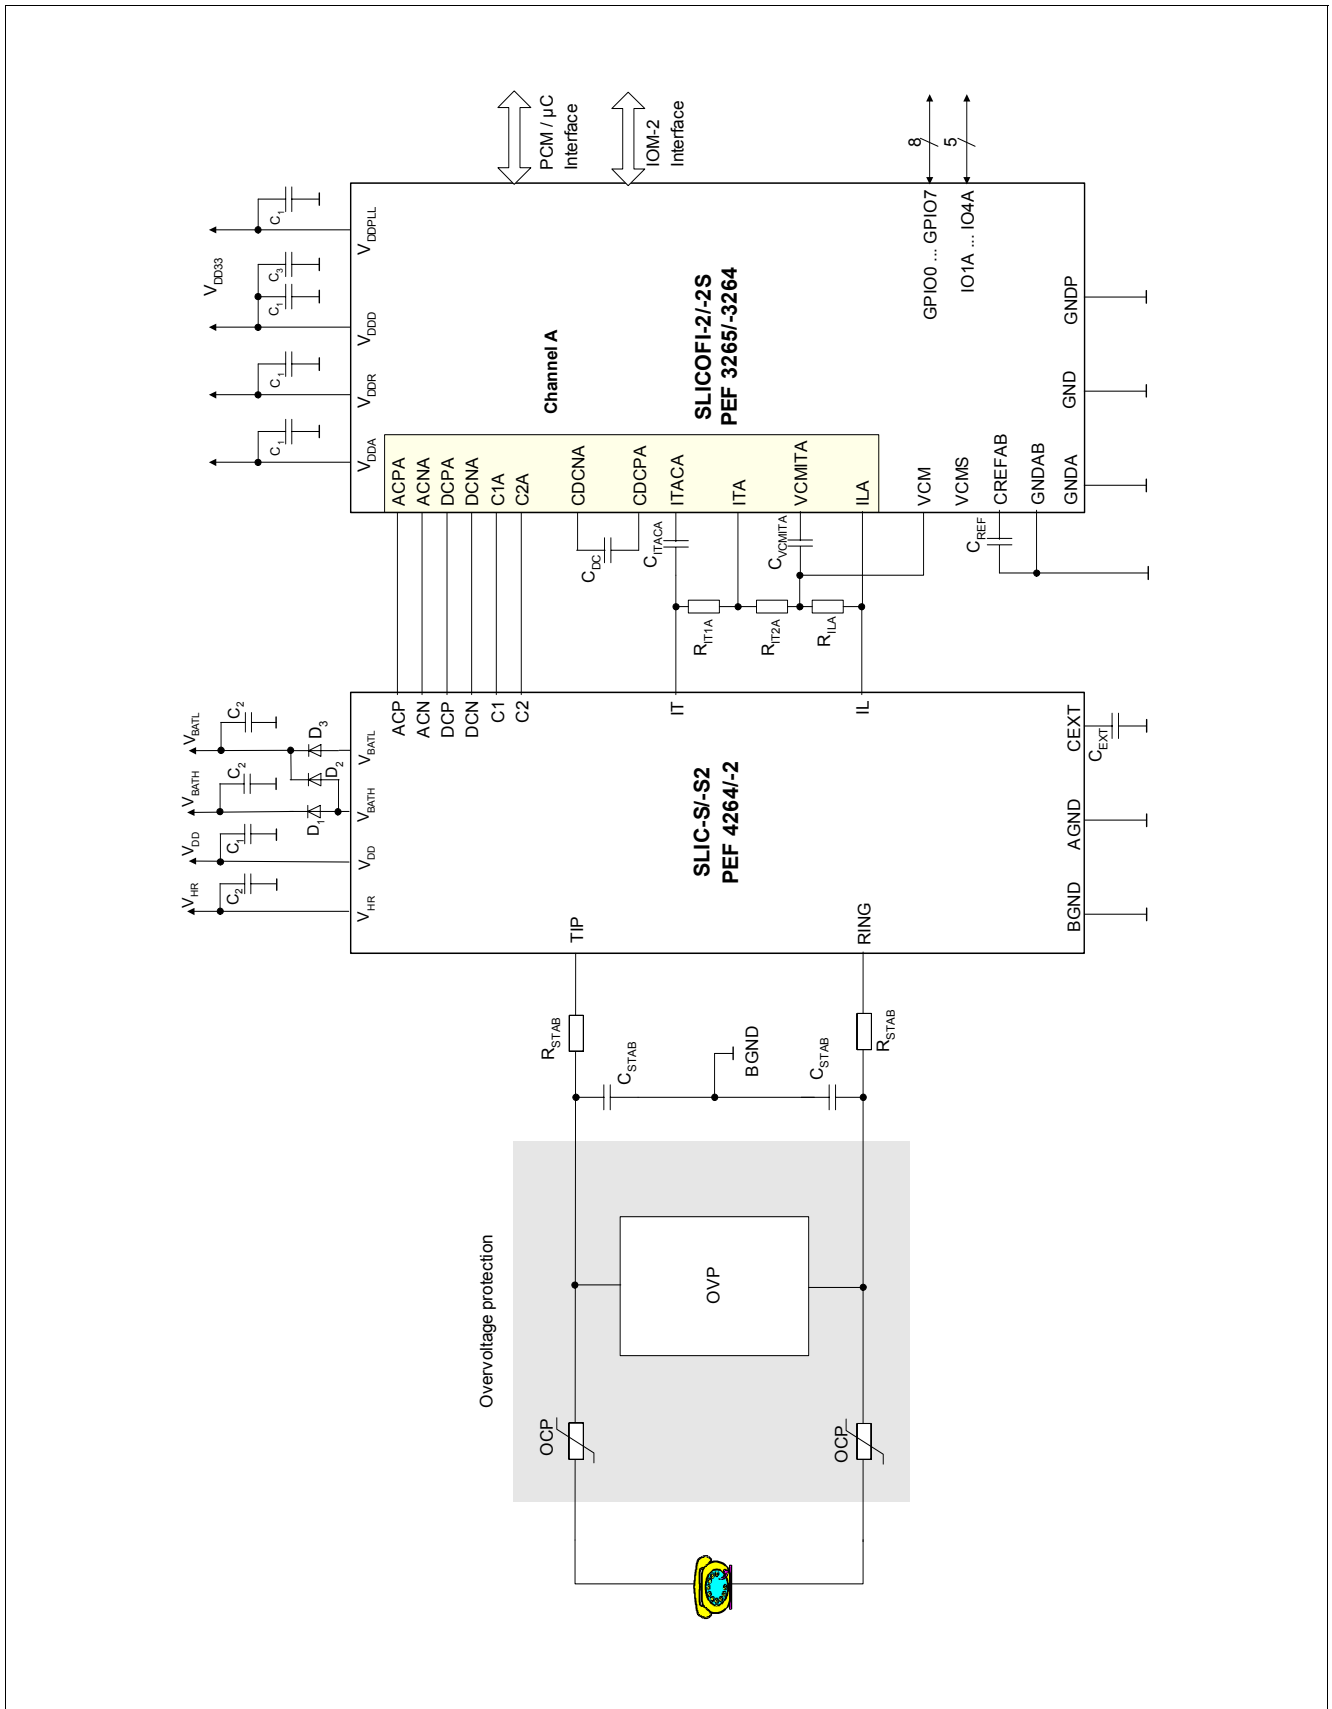
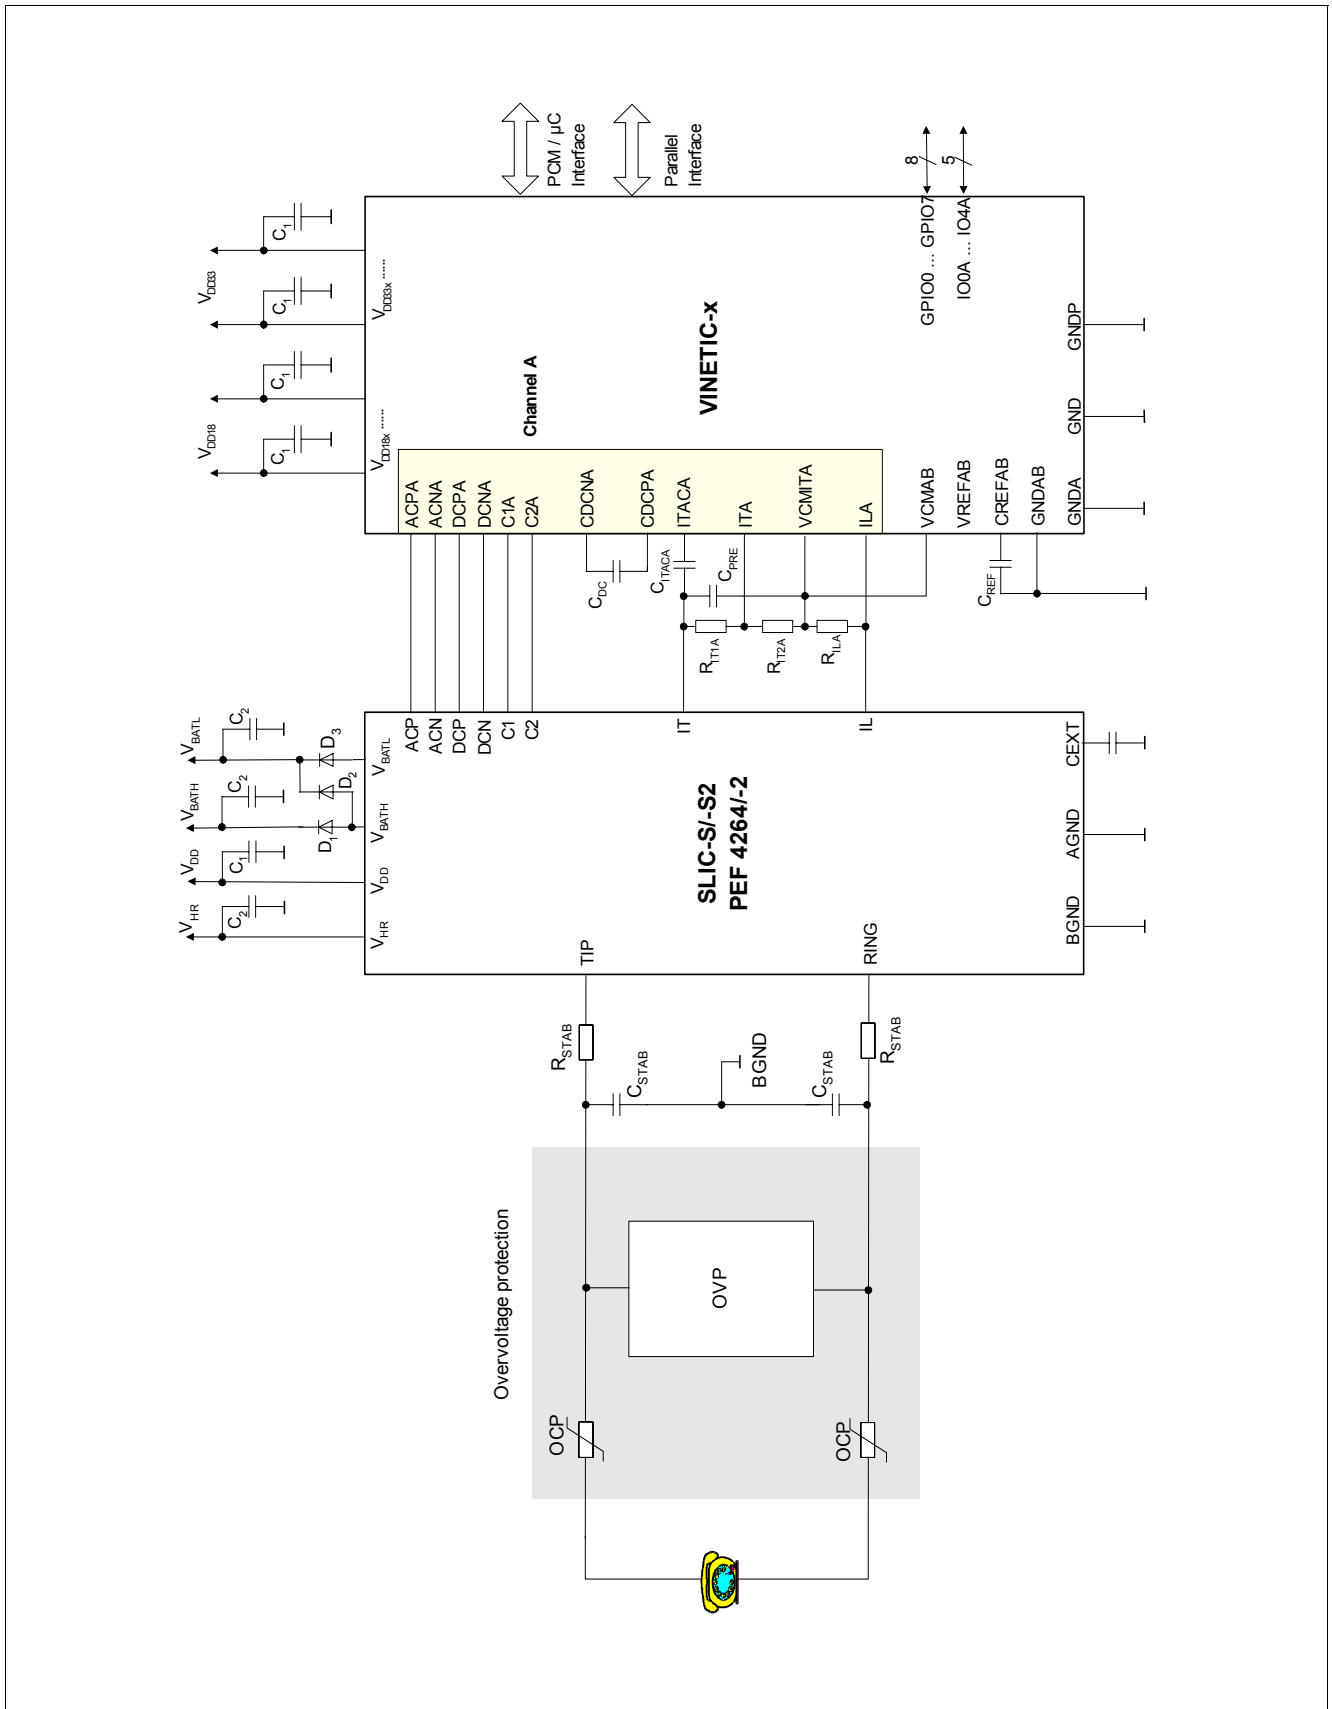

Figure 8 Application Circuit DuSLIC®
Figure 9 Application Circuit VINETIC®
**Figure 8** to **Figure 9** show one channel of application circuits including SLIC-S / TSLIC-S V2.1 and SLICOFI®-2/-2S or VINETIC® codec (please refer to the latest DuSLIC® or VINETIC® Data Sheet).